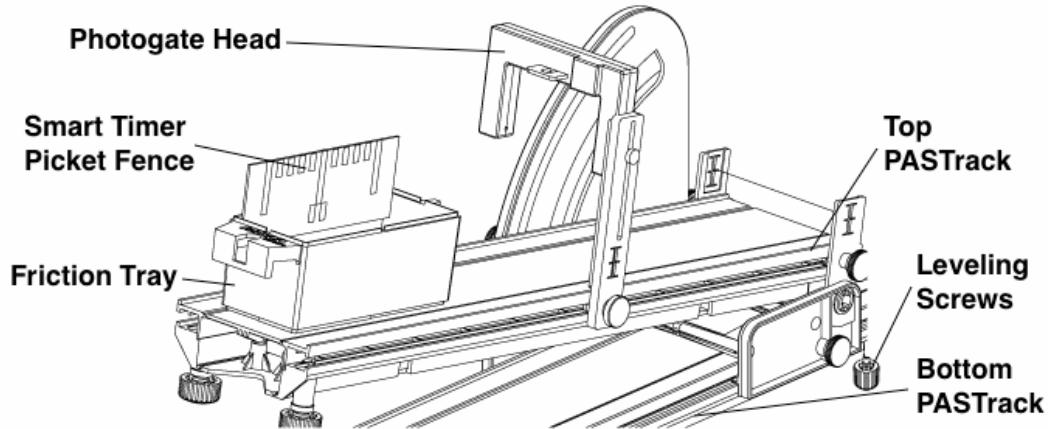

Figure 5: Inclined Plane Apparatus.
1. Set up the PAStack and Inclined Plane Accessory as shown in Figure 5 with a Photogate Head and Photogate Bracket. Elevate the PAStack to a shallow angle (a few degrees).